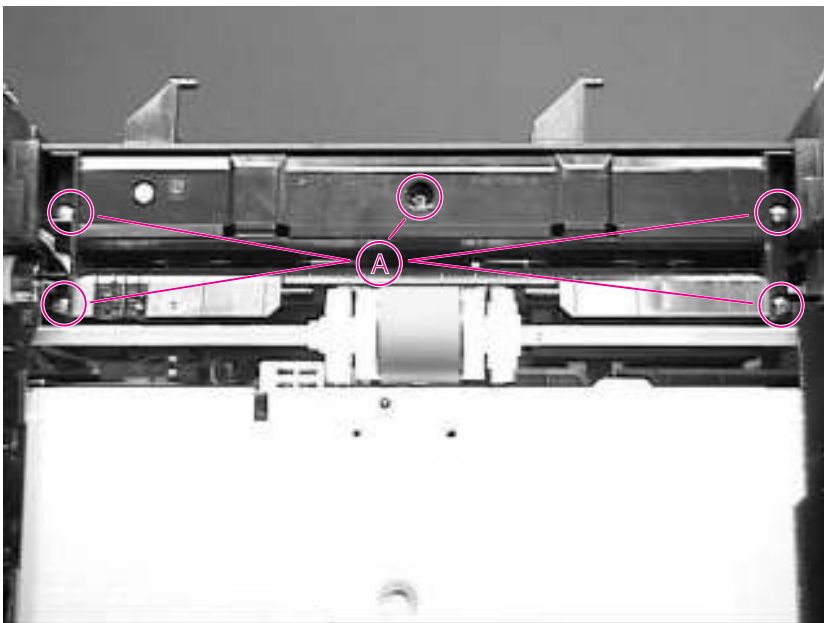

Figure 6-36 Paper Feed Roller Assembly (bottom view of printer)
- 5 Remove the five self-tapping screws that hold the Paper Feed Roller Assembly to the chassis. They are located on the bottom of the printer. See Figure 6-36.